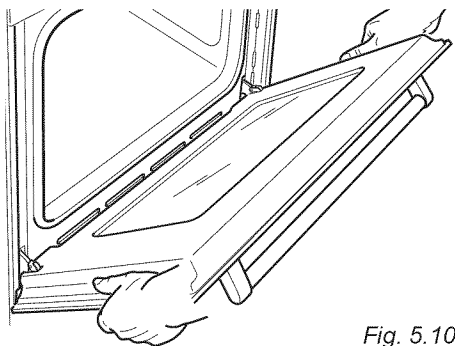

Fig. 5.10
- Hold the door as shown in fig. 5.10.
- Hold the door firmly (fig. 5.10).